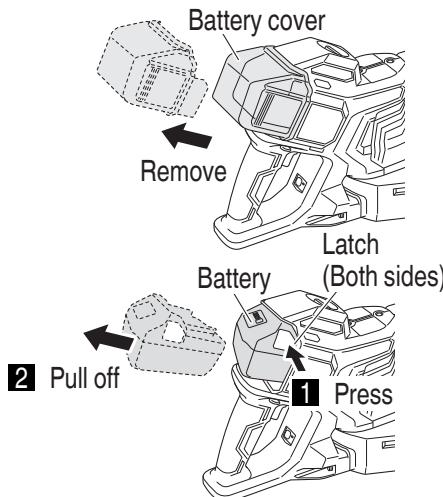

Fig. 8
When removing the battery from the tool, press down the latches on both sides and slide off the battery. (Fig. 8)
5. Removing and inserting the battery cover and battery (Fig. 8, 9 on page 47)